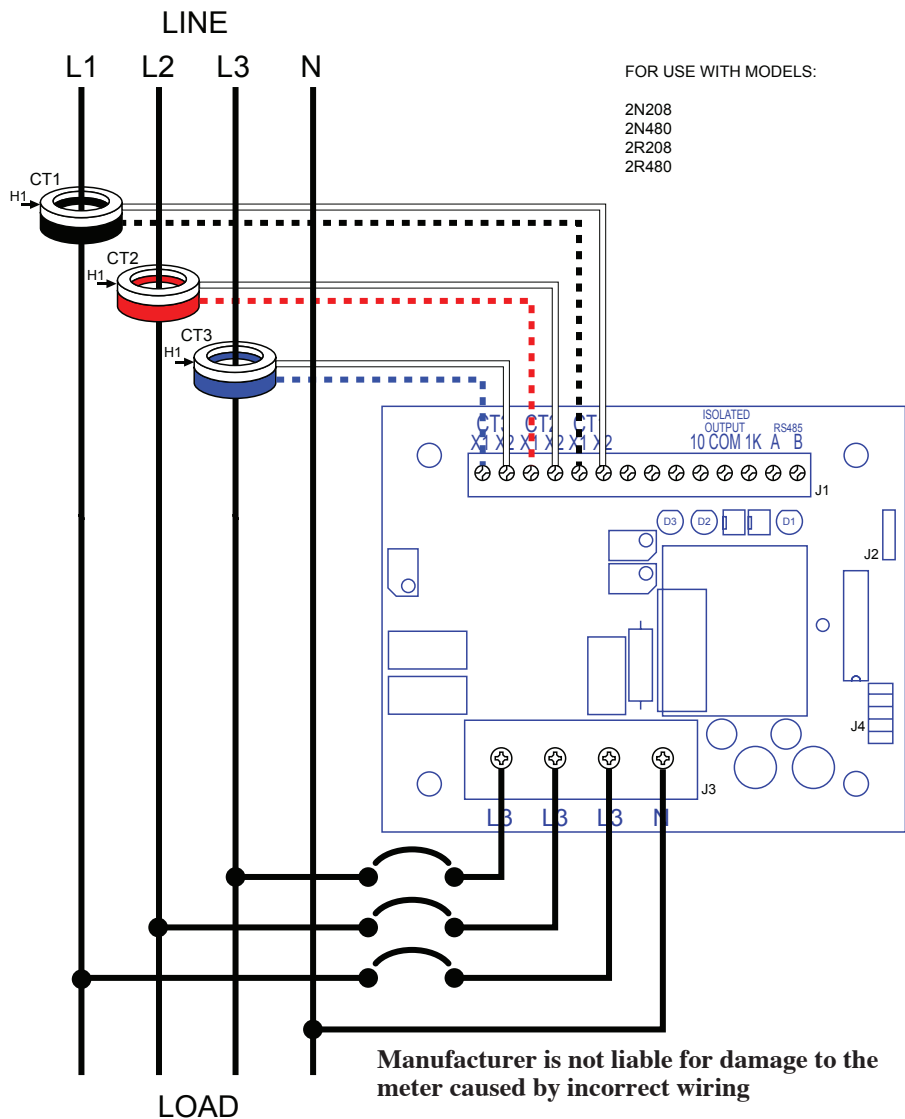

Figure 13: 3-phase, 4-wire Wye hookup diagram
1. Connect 18 AWG min., 600 V min. insulated wiring for Line voltages and Neutral to the appropriate locations in the breaker panel, in accordance with all national and local electrical codes. See wiring diagrams in Figure 10 through Figure 13 at the end of this section.
Failure to install CTs in the correct orientation and on the correct phase will lead to inaccurate meter readings. Figure 10 through Figure 13 show wiring diagrams for the various voltage configurations.